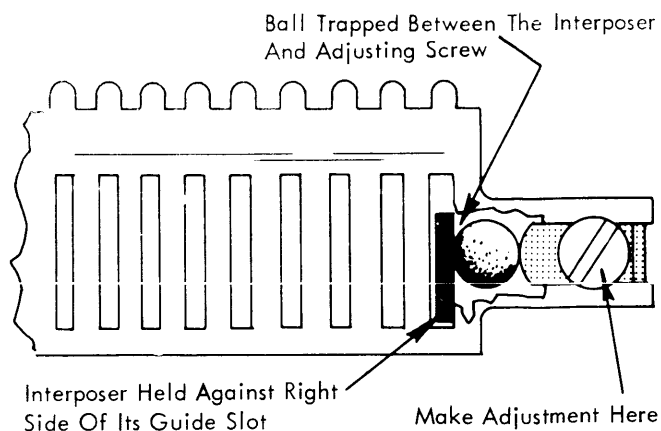

FIGURE 12. *Compensator Adjustment, Old Style*
- b. Old Style (Fig. 12) - With the extreme RH interposer latched down and held against the right side of its guide slot, adjust the adjusting screw (or slider) until the extreme RH ball is trapped between the interposer and the adjusting screw (or slider). Follow the same procedure for the left side.